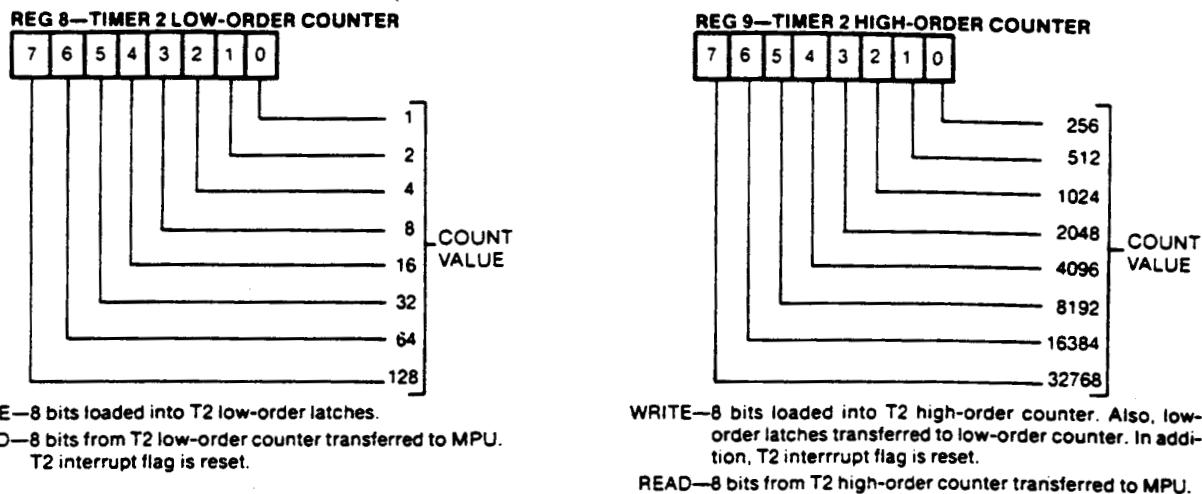

Figure 27. T2 Counter Format and Operation
- Timer 2 is made up of a write-only low-order latch (T2L-L), a read-only low-order counter (T2C-L), and a read/write high-order counter (T2C-H). This 16-bit counter decrements at a  $\phi 2$  clock rate. Refer to Figure 27 for T2 counter format and operation.